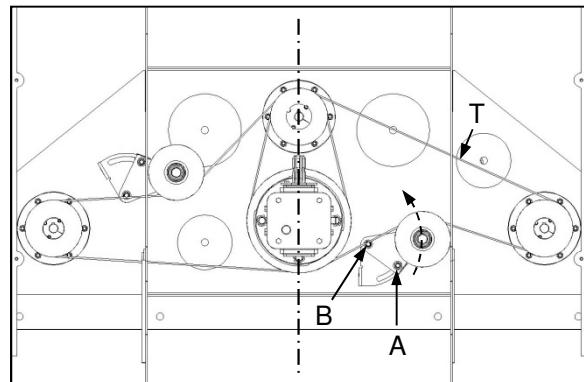

Fig. 5
- Drive belt tension (Fig. 5-T) should be checked at the mid-point of the longest belt path between pulley centres. A deflection of ± 20 mm should be evident when single-finger pressure is applied to a single belt.
- Dryfbandspanning (Fig. 5-T) moet halfpad tussen die katrolsentrums gekontroleer word. Speling van ± 20 mm behoort met eenvingerdruk op 'n enkele band sigbaar te wees.
- ✓ Loosen the locking nut (Fig. 5-A) and pivot point nut (Fig. 5-B) on the relevant belt tensioner.
- ✓ Maak die sluitmoer (Fig. 5-A) en spilpuntmoer (Fig. 5-B) aan die relevante bandspanner los.